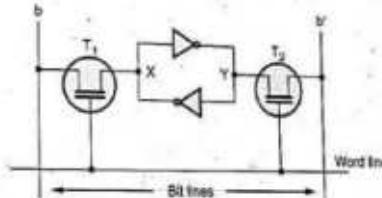

Fig. 7.6.1 Static RAM Cell
- The Fig. 7.6.1 shows the implementation of static RAM cell. It consists of two cross-coupled inverters as a latch and two transistors  $T_1$  and  $T_2$  which act as a switches.